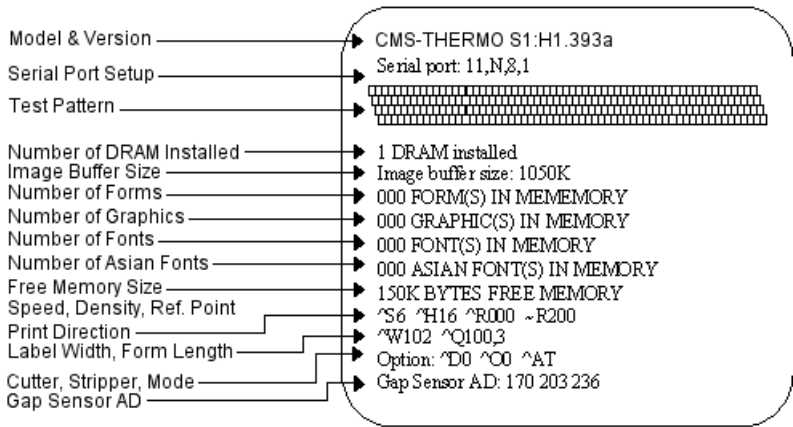

Figure 5-1 Selftest
- The printer calibrates the inserted labels and then prints its internal settings (see Figure 5-1 on page 42).